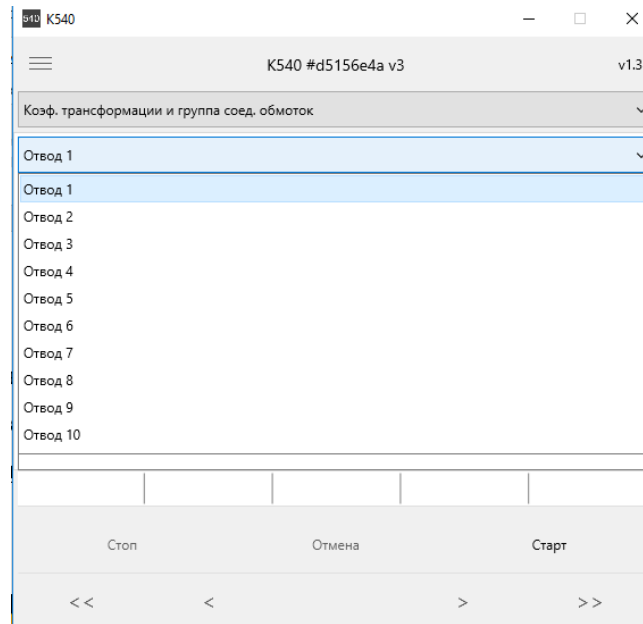

Figure 6.15
6.1.6.2 Activate Line 1, Figure 5a on PC screen, select “Transformation ratio and group of connected windings” mode, and select “Tap 1”, Figure 6.15.
- Switch the winding tap, using OLTC or SCU. Select “Tap 2” (Figure 6.15) and perform the “Start”;
- Perform the auto-setting of voltage (O), the voltage will gradually rise to value, which was set in previous paragraph; upon achieving the stable voltage value, record the result and perform the “Stop”;